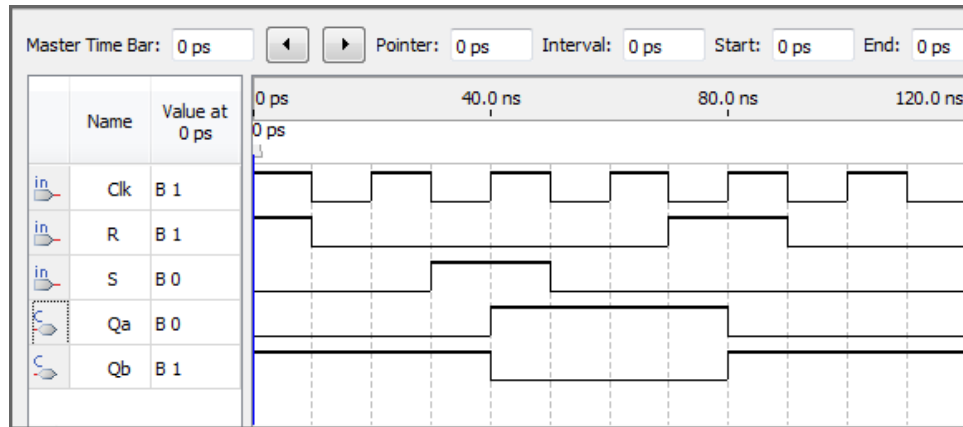

Figure 4: Simulation waveforms for the RS latch.
4. Simulate the behavior of your VHDL code by using the simulation feature provided in the Quartus II software. First, create a vector waveform file (*.vwf) using the Quartus II software to specify the inputs and outputs of your circuit. Then, use the commands available in the Quartus II Simulation Waveform Editor tool to run a simulation of the circuit. The procedure for using the Simulation Waveform Editor to perform a simulation is described in the tutorial *Quartus II Introduction*, available on the Altera University Program website (more detailed instructions are provided in the tutorial *Introduction to Quartus II Simulation*). An example of a vector waveform file is displayed in Figure 4. The waveforms in the figure begin by setting $Clk = 1$ and $R = 1$, which allows the simulation tool to initialize all of the signals inside of the latch to known values. If the waveforms provided to the simulation tool do not allow for initialization of all signals in the circuit, then the simulation tool may exit with an error condition.